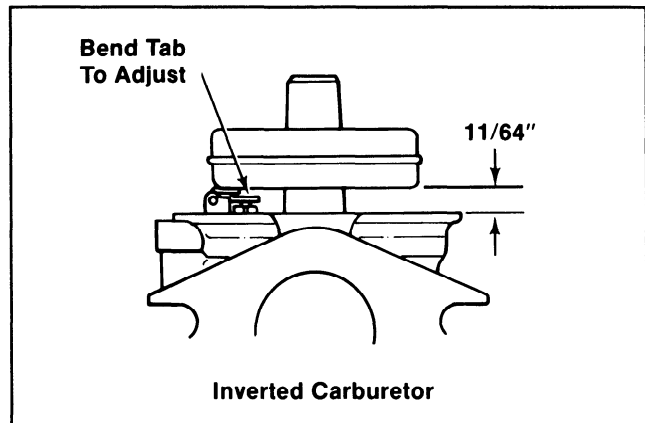

Figure 6-13. Setting Float Level.
3. **Set float level:** Invert carburetor so the float tab rests on the fuel inlet needle. There should be 11/64" (+- 1/32") clearance between the machined surface of body and the free end of float. Bend the float tab with a small screwdriver to adjust. Refer to Figure 6-13.